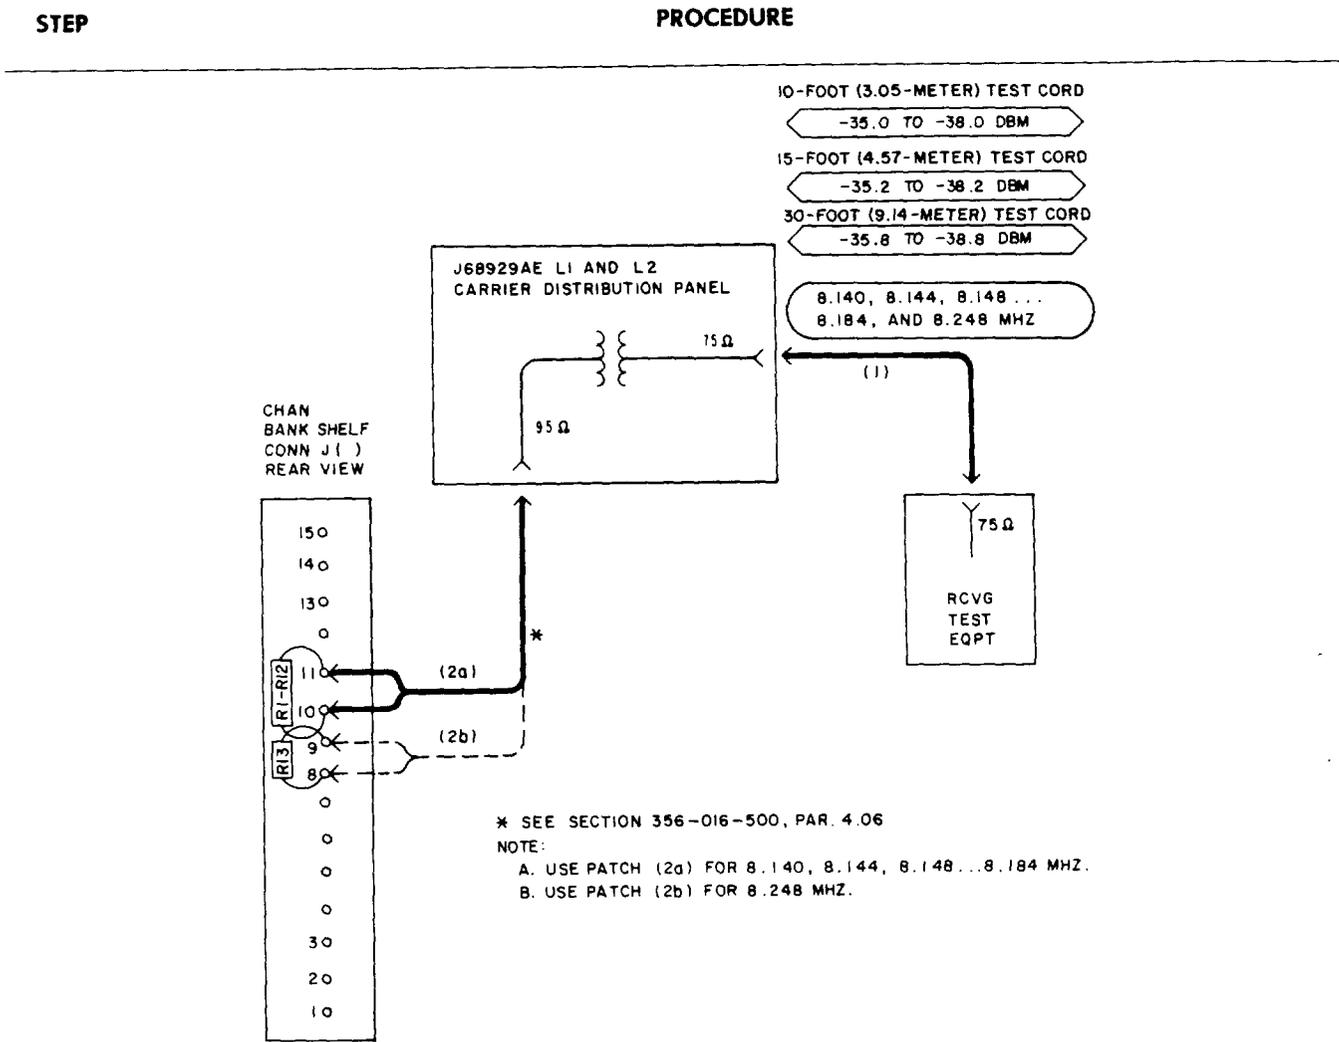

Fig. 9—Patching Diagram—Carrier-Distribution Test—Regular Carrier Supply
41 At the rear of the A6 channel bank shelf selected in Step 39, connect the 95Ω jack to pins 10 and 11 of the Channel 1 plug-in-unit jack (J2) [Table C and patch (2a), Fig. 9]. (See Section 356-016-500, paragraph 4.06, for special cord construction.)
Note: These frequencies are on pins 10 and 11 of channel bank shelf connectors J3, J4, J5, ... J13 [Table C and patch (2a), Fig. 9].
45	Remove patch (2a), Fig. 9.
46	Connect the 95Ω jack to pins 8 and 9 of J14 [Table C and patch (2b), Fig. 9].
48	Remove patches (1) and (2), Fig. 9.